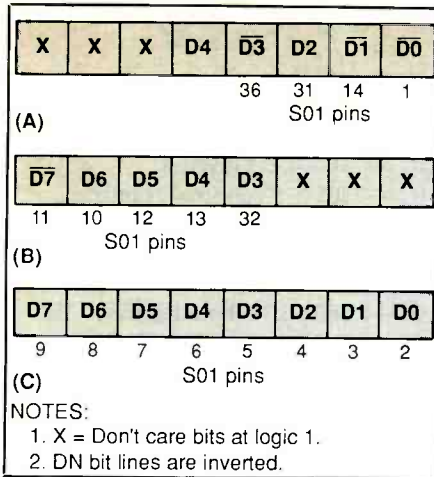
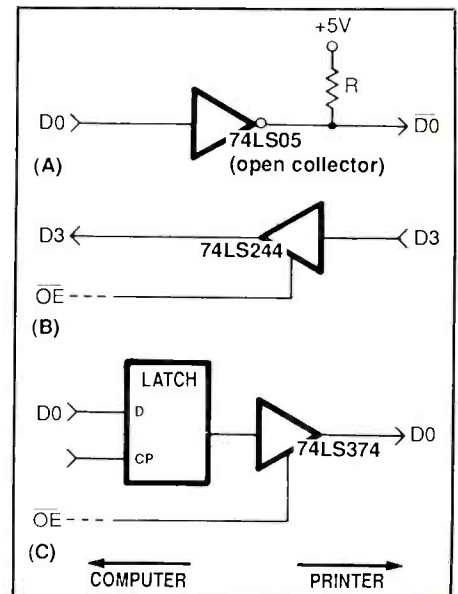

Fig. 1. Computer printer port map.
Fig. 2. Computer printer port I/O gates.
Figure 1 details the computer parallel printer port address and bit map, along with corresponding pin numbers for Centronics M36 socket *SO1*.
Table 1 lists the IBM DB-25-to-Centronics M36 printer-cable connections and line assignments. The port includes an eight-bit latched data output port at base address *N* in Fig. 1(C), a five-bit status input port at address *N+1* in Fig. 1(B) and a four-bit latched data control output port at address *N+2* in Fig. 1(A). Base address *N* depends on computer configuration and DIP-switch settings on the computer printer card. Because they differ from conventional output ports, both output ports permit a "read" of data last sent to the port.
Shown in Fig. 2 are partial circuits of the IC gates directly interfacing with the computer printer cable signal lines. The ICs on your printer card are either the same as those shown or equivalents. Figure 1(C) shows bit line D0 of the eight-bit data output port line driver consisting of a 74LS374 eight-bit data latch and buffer. The data latches store the data last sent to the port until later updated. Commonly used as a line driver, the 74LS374 can sink 16-milliamperes.
Figure 1(B) shows bit line D3 of the five-bit status input port that uses a portion of a 74LS244 eight-bit follower gate as a line receiver. The status port does not include a data latch.
Shown in Fig. 2(A) is bit line D0 of the control output port, which uses an open-collector 74LS05 hex inverter. The open-collector gate requires use of external pull-up resistor *R* connected to +5 volts. The resistor was located in the printer and measured 4,700-ohms. Possibly, the computer printer circuit card may additionally include pull-up resistors. The 74LS05 is capable of sinking a maximum of 8
control port data bit lines on socket *SO1* as listed in Fig. 1(A) were connected to board terminals for later wiring when needed.